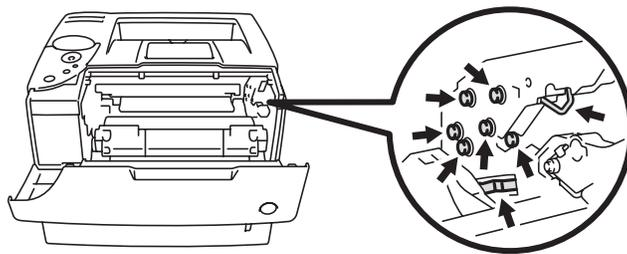

Figure 5-27
- To prevent damage to the printer from static electricity, do not touch the electrodes shown in Figure 5-27.